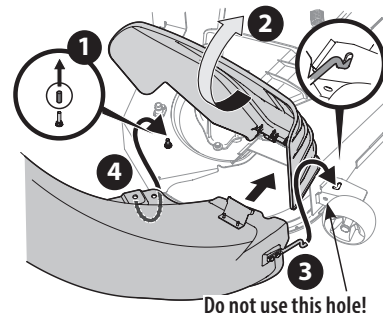

Figure 17
- Remove the deck pin rubber protective cap, 1 in Figure 17.
- Raise the chute deflector (2 in Figure 17) on the deck and hold it while you position the boot over the chute opening.
- Insert the end of the boot elbow (3) into the hole provided in the deck wheel mount as shown in the top right inset of Figure 17.
- Pivot the boot rearward until the hole in the boot elbow aligns with the pin on the deck. Move the boot elbow down onto that pin as shown in 4 of Figure 17.